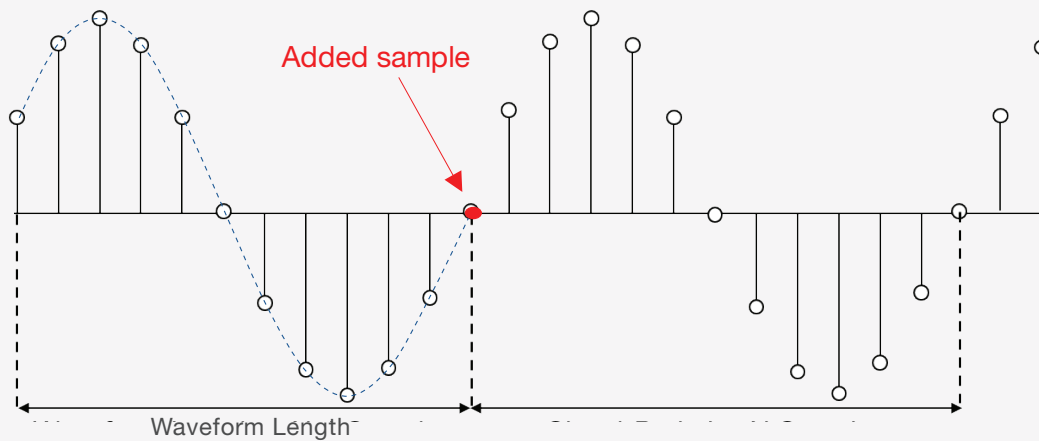

Figure 5. Add a sample for a signal period
- If there are N samples in a periodic waveform, but only the first N-1 samples are stored in the waveform segment as shown in Figure 5.